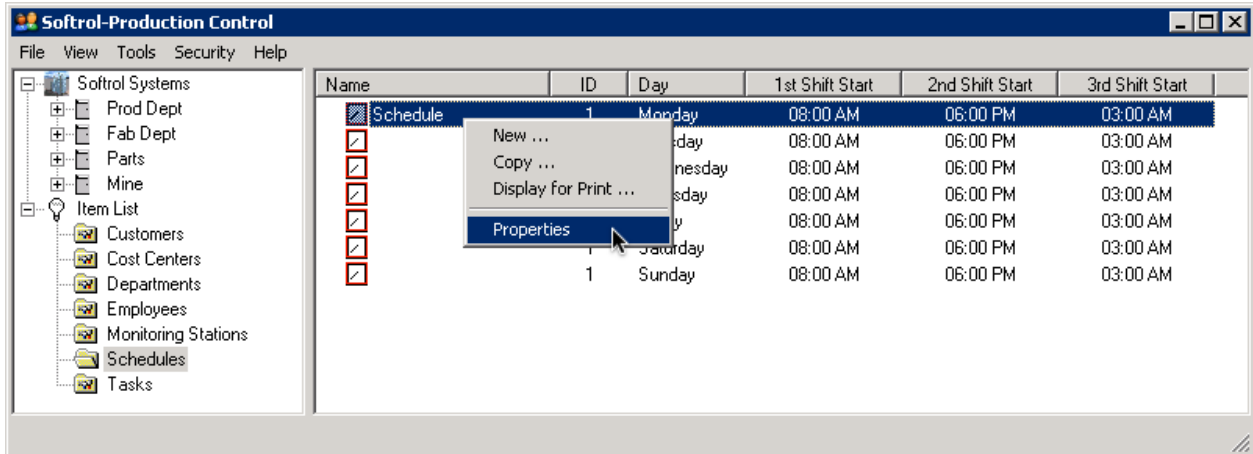

Figure 50. Modify or delete a schedule by right-clicking the schedule (or one of its elements) and selecting Properties.
2. Select **Properties** (see Figure 50).